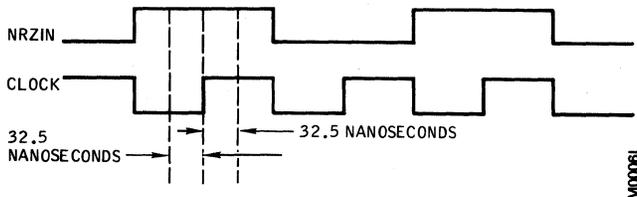

Figure 2-6. Write Clock Phasing
5. Rising edge of clock pulse must be within 32.5 nanoseconds of the center of the NRZ data pulse as shown in Figure 2-6.